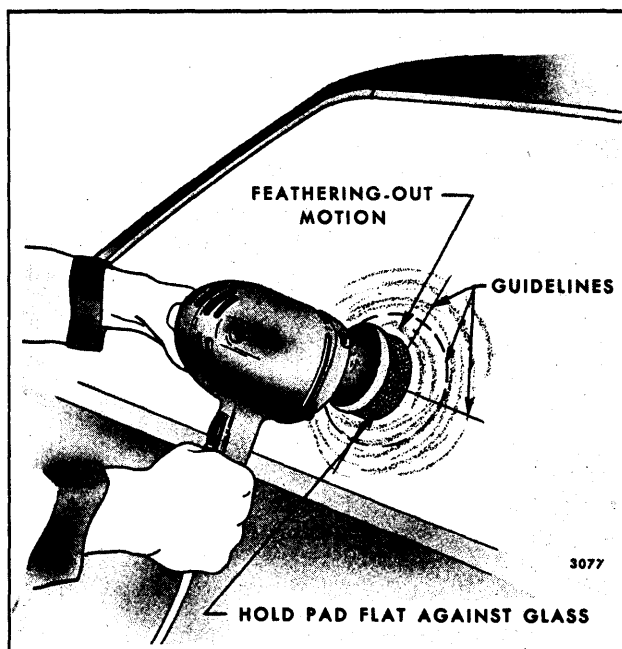

Fig. 1-9—Minor Glass Scratch Removal
3. Draw a circle around the scratches on the inside of the windshield with a marking crayon or equivalent. Draw other lines directly behind scratches to serve as guides in locating the scratch during polishing (Fig. 1-9).
6. Using moderate, but steady, pressure, hold the pad flat against the scratched area of the glass, and with a feathering-out motion, polish the affected area as shown in Figure 1-9.
7. Cover a sufficient area around the scratch with a feathering-out motion as shown in Figure 1-9, to eliminate any possibility of a "bulls-eye".